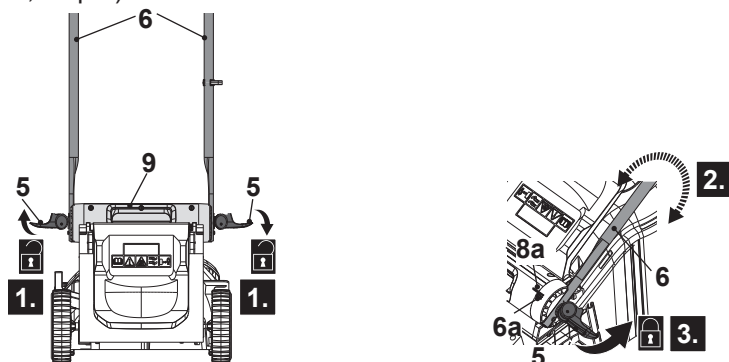

Fig. 12
1. Unfold and loosen the clamp levers (5) anti-clockwise on both sides of the lower handle bars (6), but do not remove them (Fig.12, step 1).
2. Hold and swing the handle assembly gently to the desired position by aligning the indication line (6a) with the indicator (8a) of transport handle (8) (Fig. 12, step 2). Ensure the handle assembly is assembled on the same height level on both side.
- Secure the handle assembly by folding up the clamp lever (5) towards the transport handle (8). If clamp lever (5) cannot be folded, loosen it and fold again. If it is too loose, tighten it by turning the clamp lever (5) clockwise (Fig. 12, step 3).